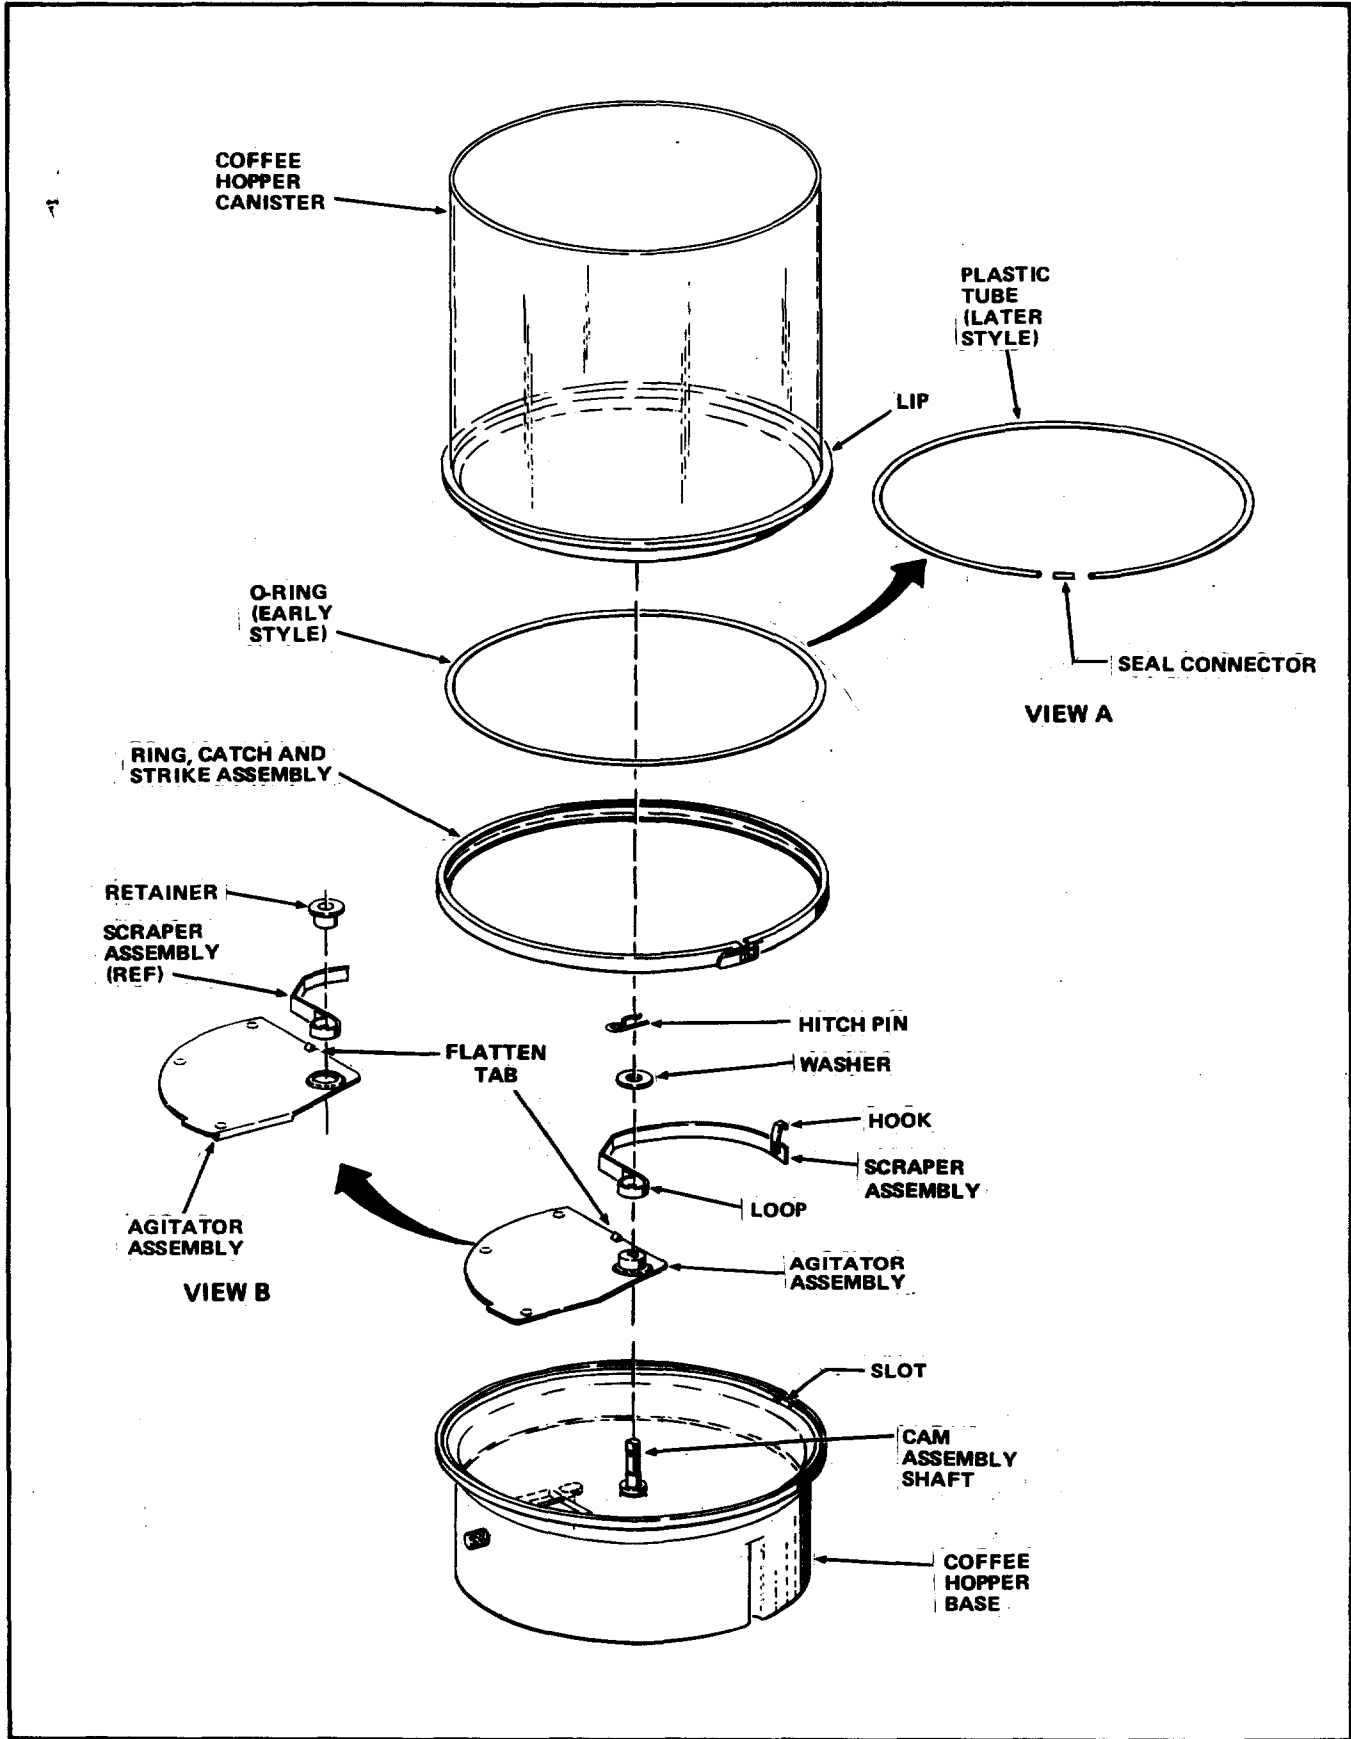

FIGURE 2
22. If Agitator Assembly has a Tab as shown in Figure 2, bend or hammer the Tab down so it is flush with the Agitator.
Steps 14 thru 16 apply only to an Agitator Assembly as shown in View B of Figure 2.
14. Mount the Agitator Assembly on the Cam Assembly Shaft in the Coffee Hopper Base. See View B of Figure 2.
15. Insert the Retainer through the Loop on the Scraper Assembly. Be sure that the large flat side of the Retainer is on the same side of the Scraper Assembly as the Hook. See View B of Figure 2.
16. Install the assembled Scraper Assembly and Retainer on the Cam Assembly Shaft and insert the Hook on the Scraper Assembly into the Slot on the rim of the Coffee Hopper Base. Secure by inserting the Hitch Pin thru the small hole in the Cam Assembly shaft. See View B of Figure 2.
17. Place the "O" Ring (early style) or Plastic Tube and Seal Connector (later style) under the lip of the Coffee Hopper Canister, Part Number 613-0104, included in the Kit. See Figure 2 for early style and View A of Figure 2 for later style.
secure with the Ring, Catch and Strike Assembly. See Figure 2.